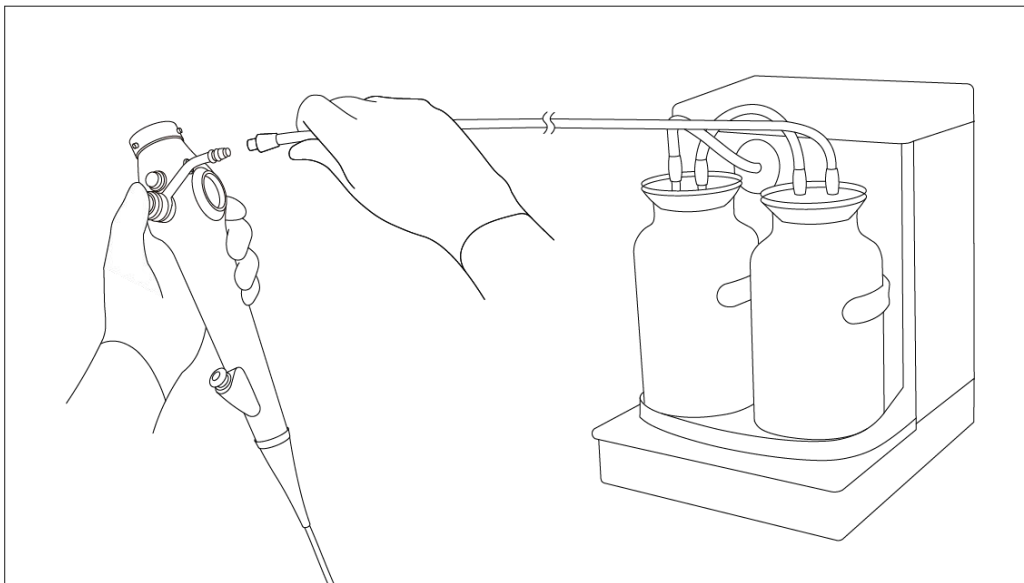

Fig. 3.13
1. As shown in Fig. 3.13, install the suction button to the suction base, and connect the tube of the suction pump to the connector of the suction button.